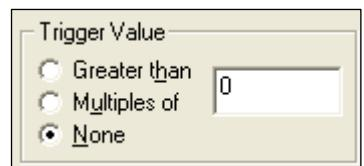

Figure 400
2. Set the trigger type to 'None' (see Figure 400).